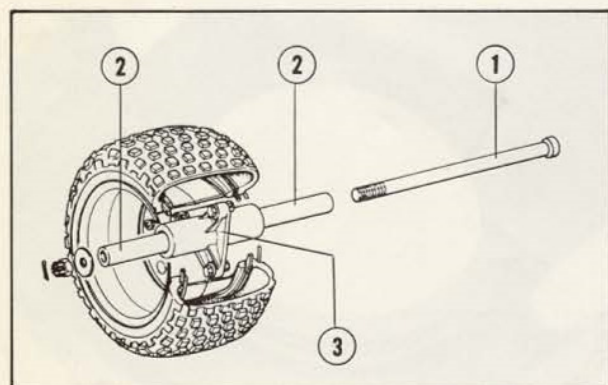

Fig. 4-11
5. Line up the hole in the wheel hub with those in the front fork; without disturbing the above setup, install the axle with the end through these holes. Install the axle with the end through these holes. Install the axle from the side as shown in Fig. 4-11. Bend the ends of the cotter pin against the sides of the nut. Tighten the castle nut to specification and if the cotter pin hole does not align with the slot of the nut, back off the castle nut until the hole aligns with the next slot.